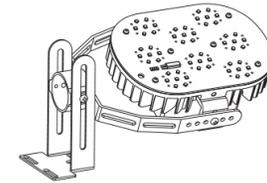

Fig. 3
4. Attach Mounting Bracket to fixture. Mounting method will vary by fixture. Adjust lamp to the desired position and tighten hardware (Fig. 3).